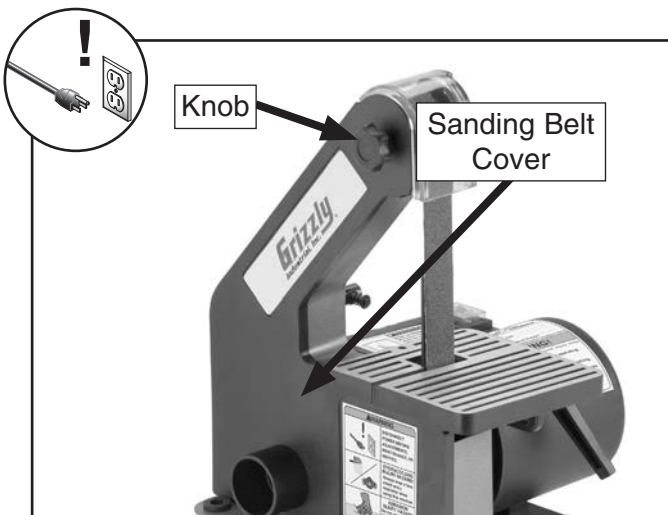

Figure 13. Sanding belt cover.
2. Unscrew the knob from the sanding belt cover (**Figure 13**) and remove the cover from the sander.